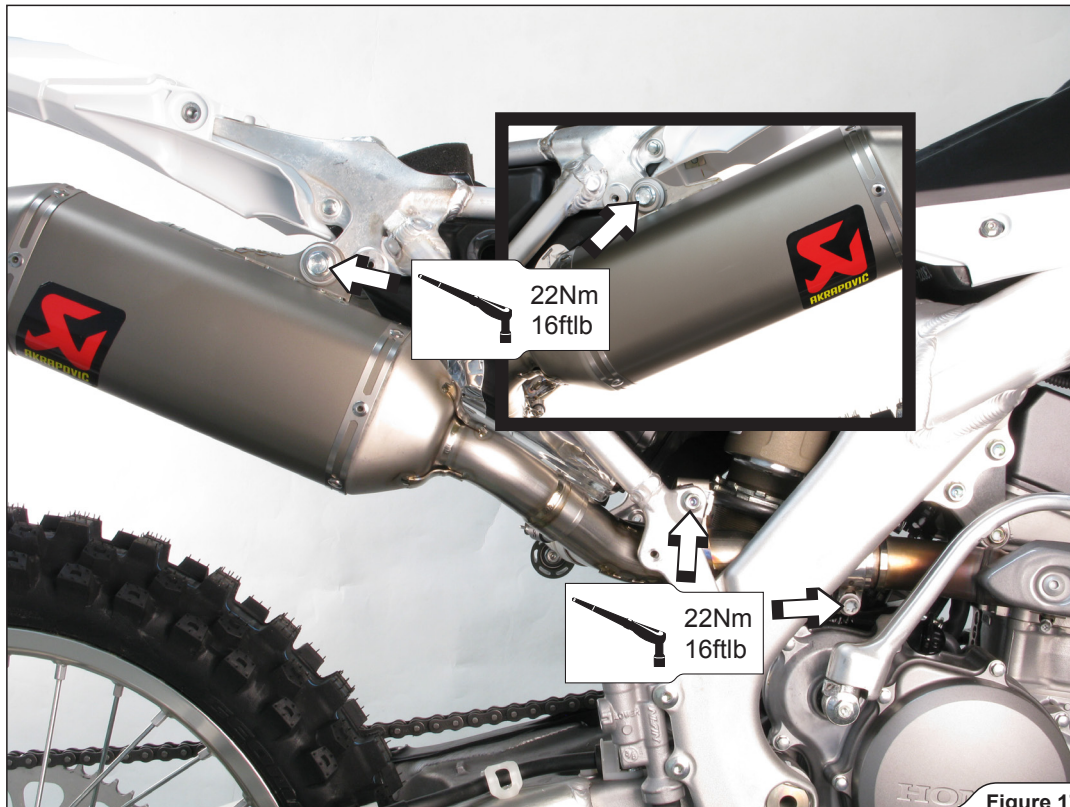

Figure 17
9. Align the mufflers in respect to the motorcycle. Tighten the mufflers' bolts, link pipe's bracket bolt and clamp to the specified torque (**Figure 17**).